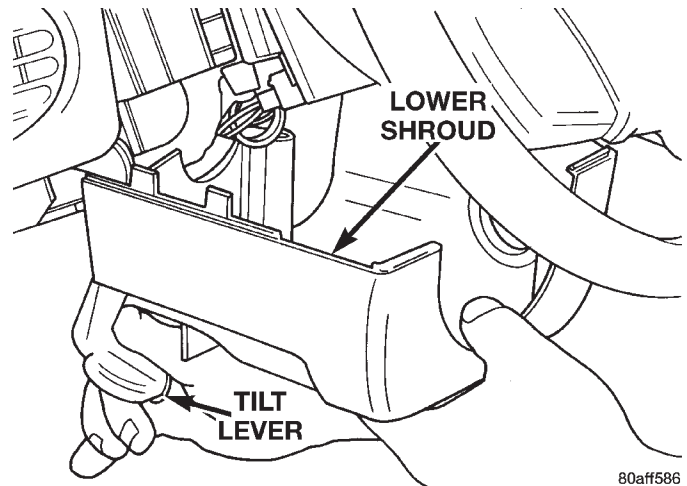

Fig. 25 Lower Shroud Removal
- (13) Hold tilt wheel lever down and slide lower shroud forward to remove it from column (Fig. 25).
- (14) Tilt wheel to full down position and remove upper steering column shroud.